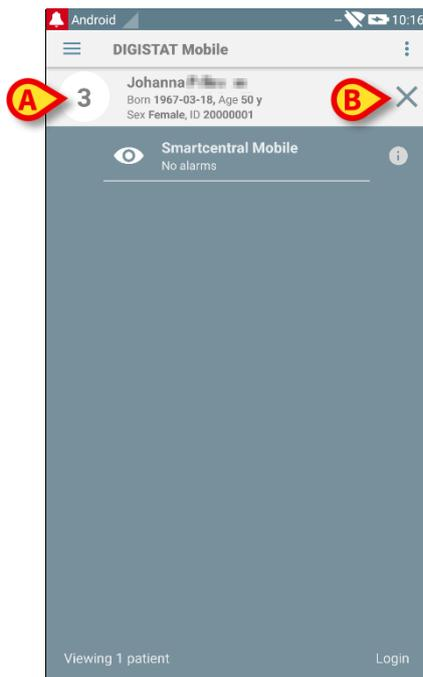

Fig 167
Patient data are on top of the page (Fig 167 **A**). All the Digistat Smart Central Mobile modules data is now filtered by patient (i.e. all and only the selected patient alarms/notifications are displayed).
- Touch the cross indicated in Fig 167 **B** to deselect the patient and turn to “All Patients” mode again.